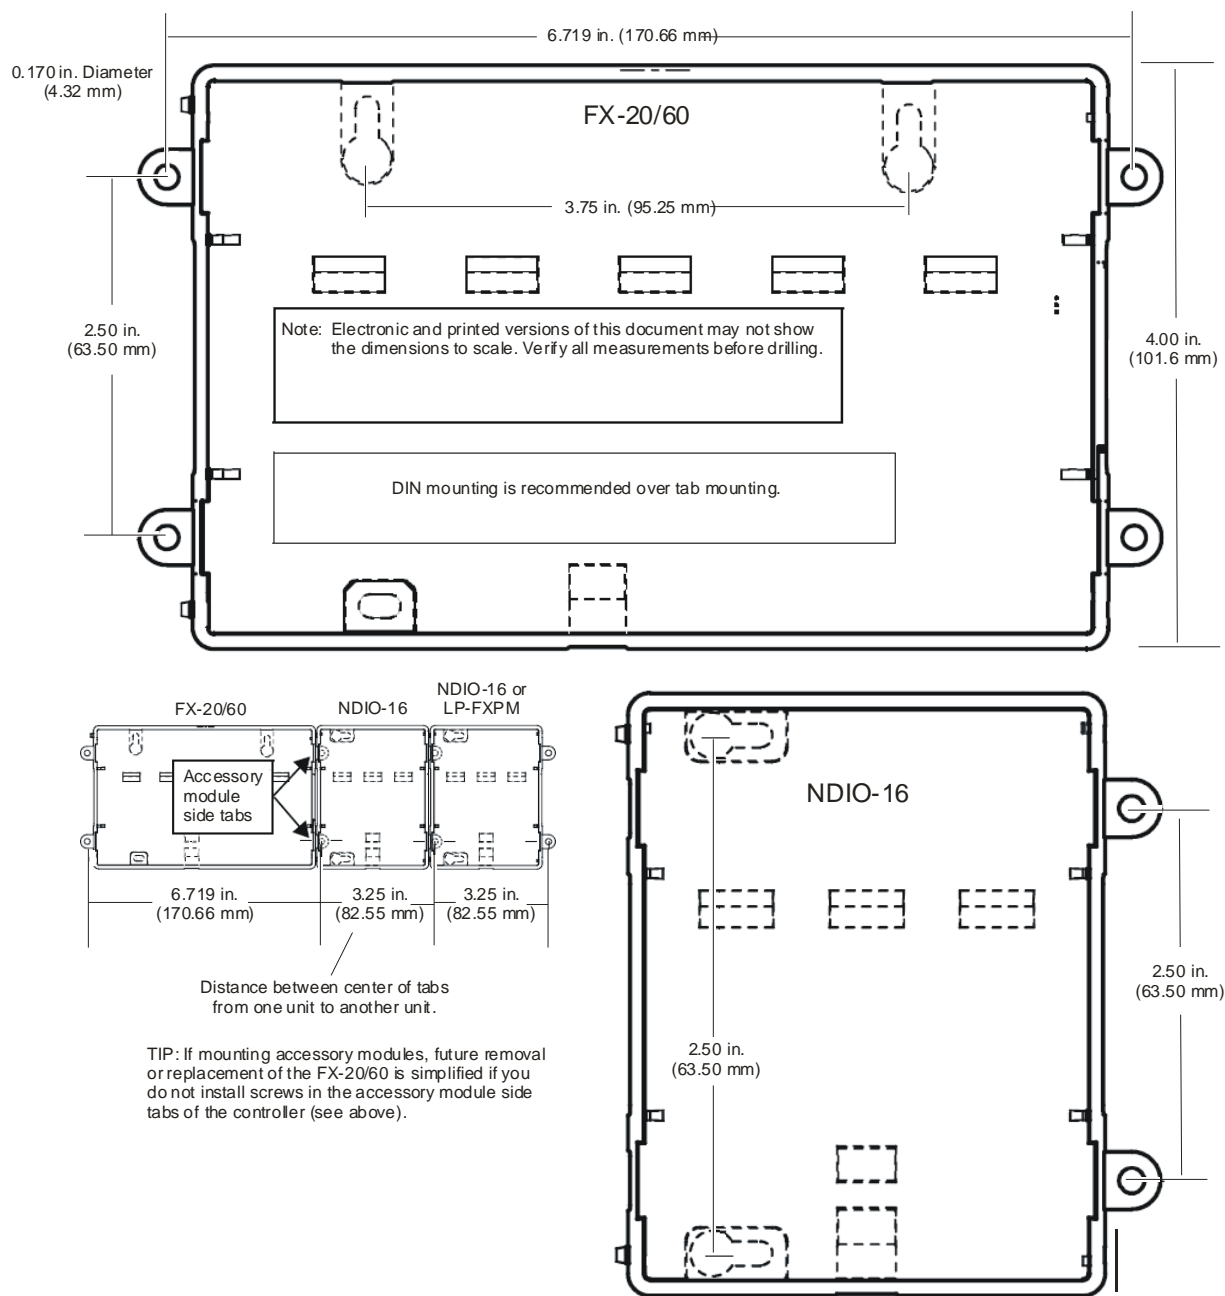
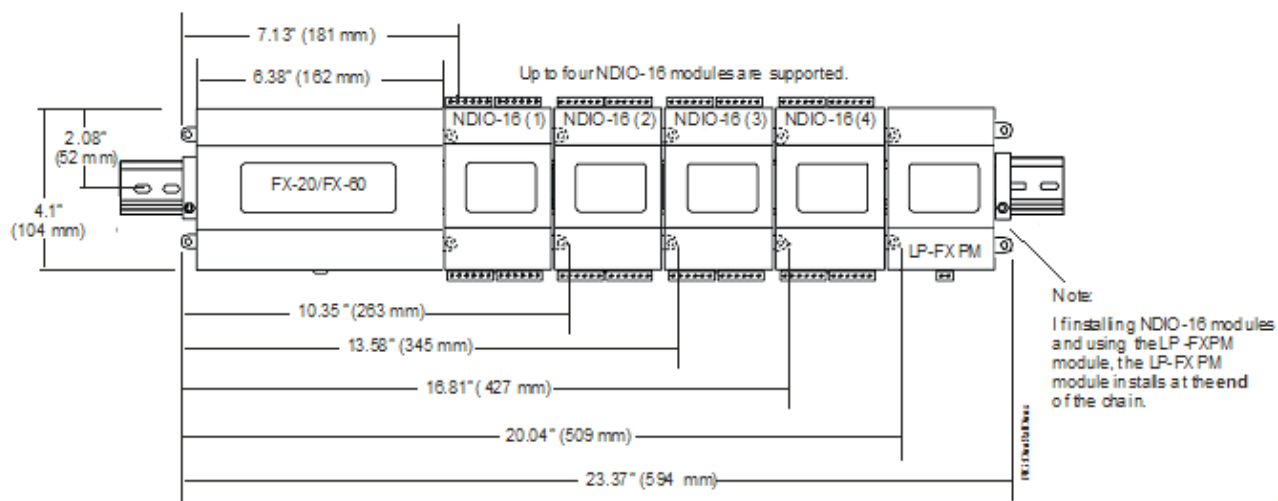

Figure 2: Tab Mounting Dimensions, in. (mm)
Figure 5: Mounting Accessories
Mount the FX20/FX60 in a location that allows clearance for wiring, servicing, and module removal. For mounting details, see Figure 2 through Figure 5.
- If DIN rail mounting is impractical, use screws in mounting tabs on the FX20/FX60 and in any end-connected accessory (power module, NDIO module). See Figure 2 for tab dimensions.
4. Mount the accessory modules (NDIO modules and power module) onto the DIN rail in the same manner (see Figure 5). See Table 1 for quantities allowed.